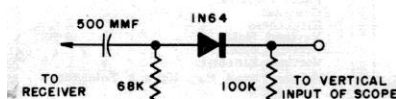

Fig. 12 Detector Network
1. The trap (L269, C244, C245) is adjusted for minimum amplitude of the 4.5 mc signal. Use a detector network as shown in Figure 12 connected from junction of L258 and C269 to B- to detect the signal.
6. Detector Network--A crystal detector network as shown in Figure 12 is necessary to detect the response when aligning L269, the 4.5 mc trap.